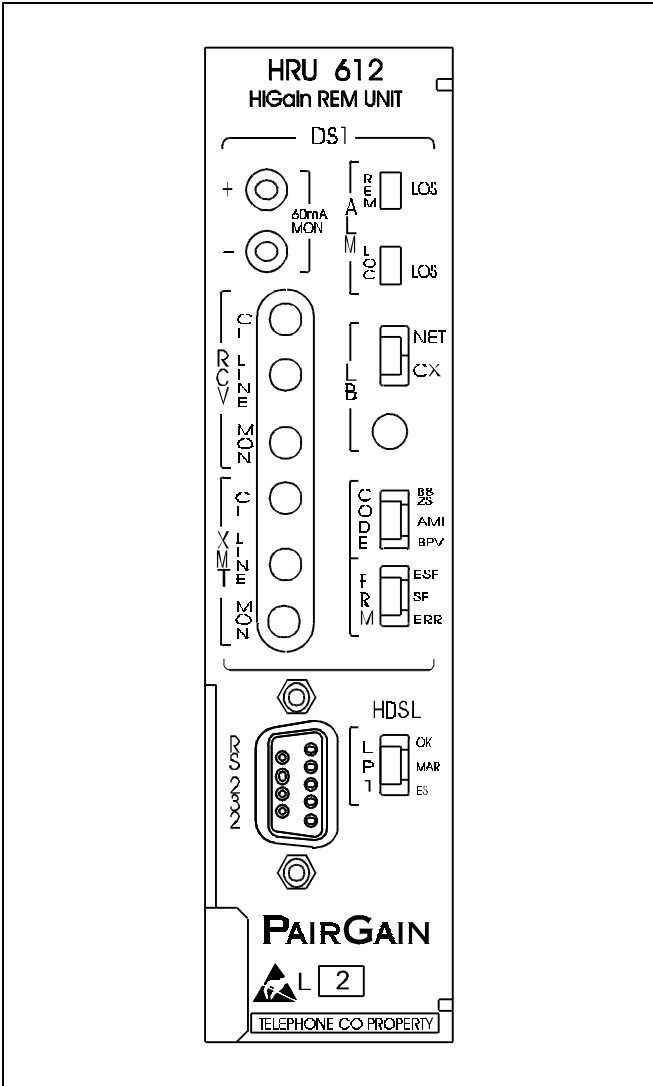

Figure 1. HRU-612 List 2 Front Panel. The PairGain HRU-612 is the remote side of a single pair repeaterless T1 transmission system.
1.01 PairGain's HiGain-2 Remote Unit Model HRU-612, List 2, Figure 1, is the remote end of a single pair repeaterless T1 transmission system. It differs from the HRU-612, List 1 in the implementation of the SAIS, DIS(abled) option and in its ability to be locally powered. When used in conjunction with a HiGain-2 Line Unit HLU-611 the system provides 1.544 Mb/s transmission on one unconditioned copper pair over the cable ranges shown in Table 1. The HiGain-2 system utilizes 2B1Q VHDSL (Very High-bit-rate Digital Subscriber Line) transmission technology. HiGain-2 complies with the ANSI T1E1.4, T1.403-1989 and T1E1.4/92-002R2 technical standards & recommendations. The HRU-612 List 2 mounts in a single slot of any industry standard 400 mechanics shelf or in equivalent enclosures manufactured by PairGain Technologies. The system also complies with TR-TSY-000063 (Network Equipment Building System (NEBS) Generic Equipment requirements) and TR-TSY-000499 (Transport System Generic Requirements - TSGR) common requirements.